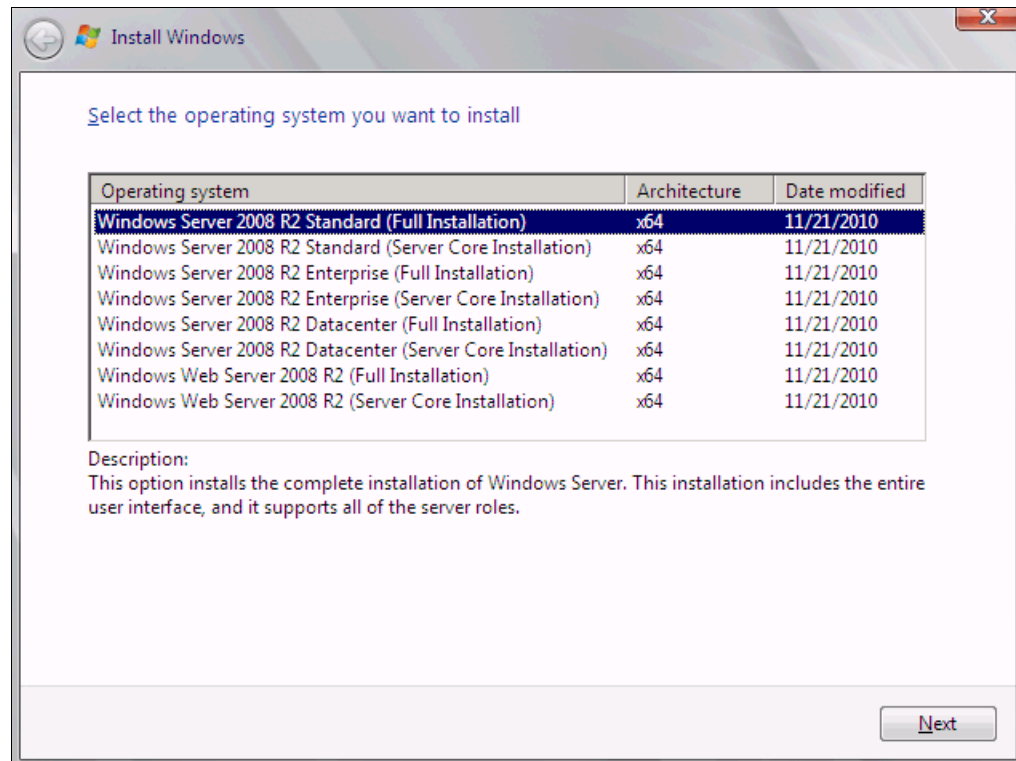

Figure 9-165 Selecting the operating system
9. In the Install Windows window (Figure 9-165), select your operating system, and click **Next**.